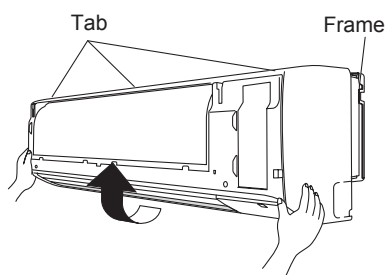

Fig. 7-5
- Hold the both sides of the grille and pull upwards to remove from the frame. (Fig.7-5)
- Fit the grille to the three tabs on the upper part of the frame and attach the grille. (Fig.7-5)